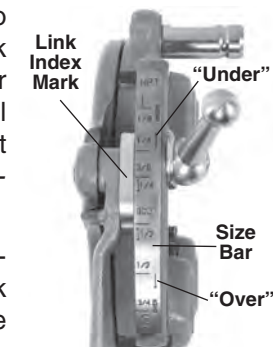

Figure 9 – Adjusting Thread Size
3. Start with link index mark aligned with desired size mark on size bar. On Mono and Bolt die heads, set link mark at line in size bar. For bolt threads with Universal die head, set all bolt dies at BOLT line on size bar (Figure 9).